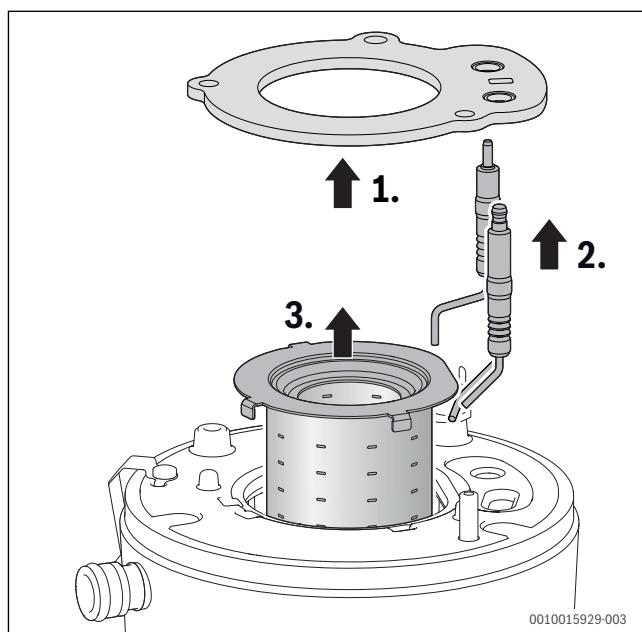

Fig. 65 Removing the burner
- ▶ Each time the burner is opened, replace the burner gasket (→ Fig. 65, item [1]) and all other gaskets affected by the measure.